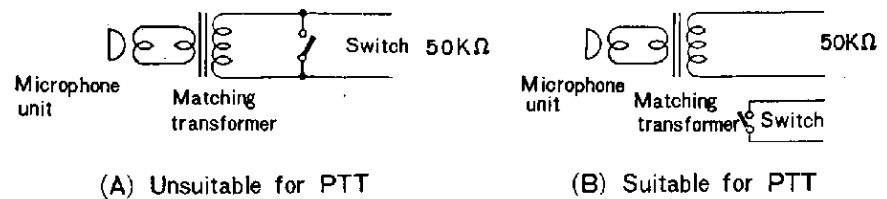

Fig. 12 Microphone with a switch
A 50 K Ω dynamic microphone or crystal microphone, equipped with a switch, is recommended. Fig. 12 shows two types of switching arrangements ordinarily offered in microphones. Type (B) switching is suitable for PTT operation since, in this configuration, the switching circuit is independent of the microphone circuit, while in type (A) the microphone circuit is simply shorted.